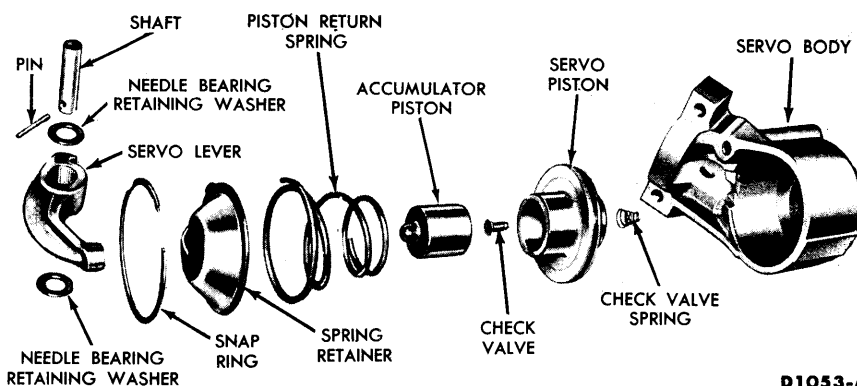

FIG. 46—Rear Servo
3. Remove the retainer and servo spring (Fig. 46).